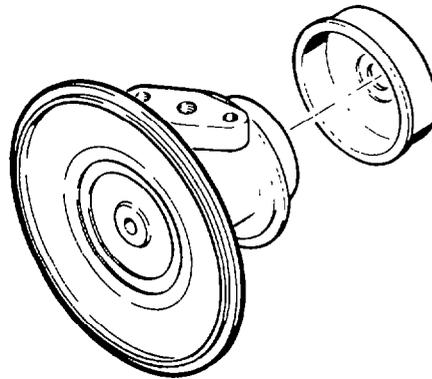

Fig. 154 — Installing Wheel Shroud
- i. Fit the backplate (item 7) to the centre housing; fit the lockplates (item 5) then install the backplate retaining bolts (item 3). Torque the bolts to between 9.0 Nm and 11.3 Nm (80 lb.in. to 90 lb.in.). Lock the bolts into position by bending the tabs on the lockplates.
- j. Fit the wheel shroud (item 19) to the centre housing; fill the piston ring groove in the turbine wheel shaft with high vacuum silicone grease (see fig. 154).